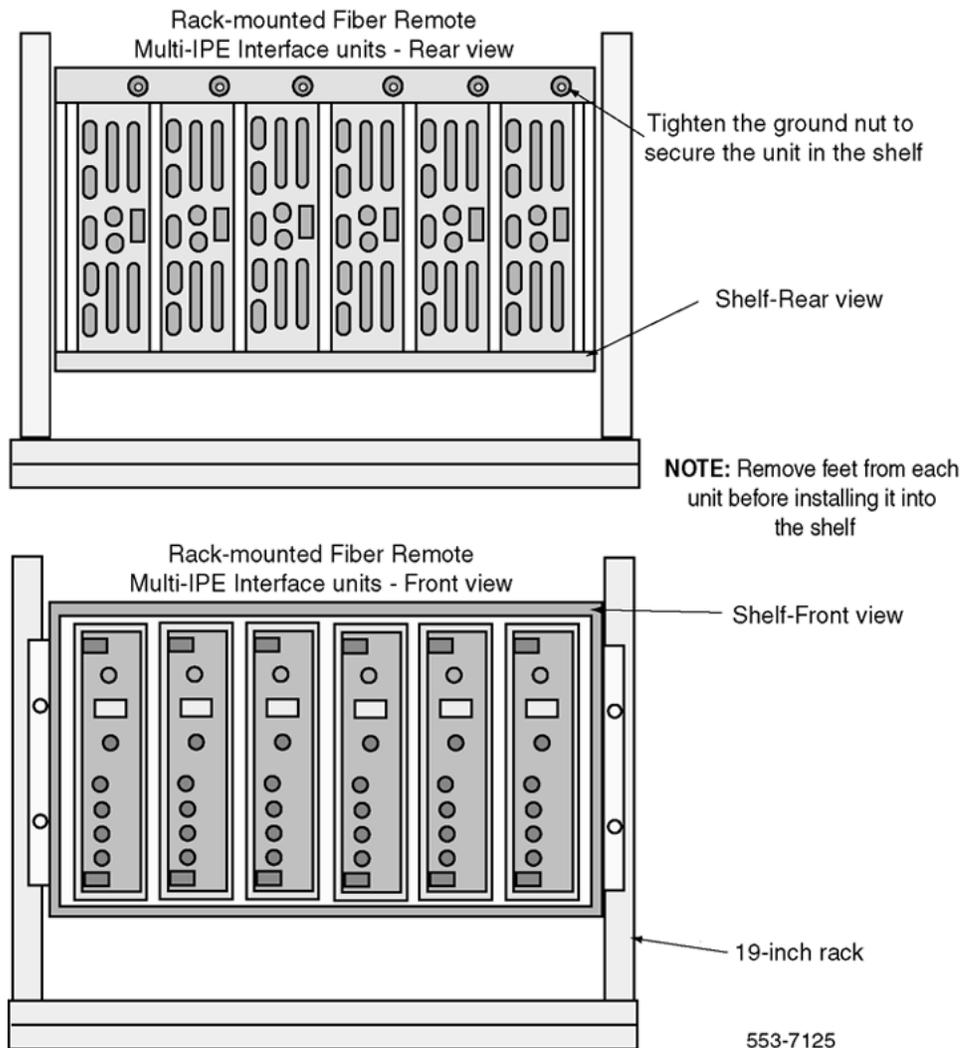
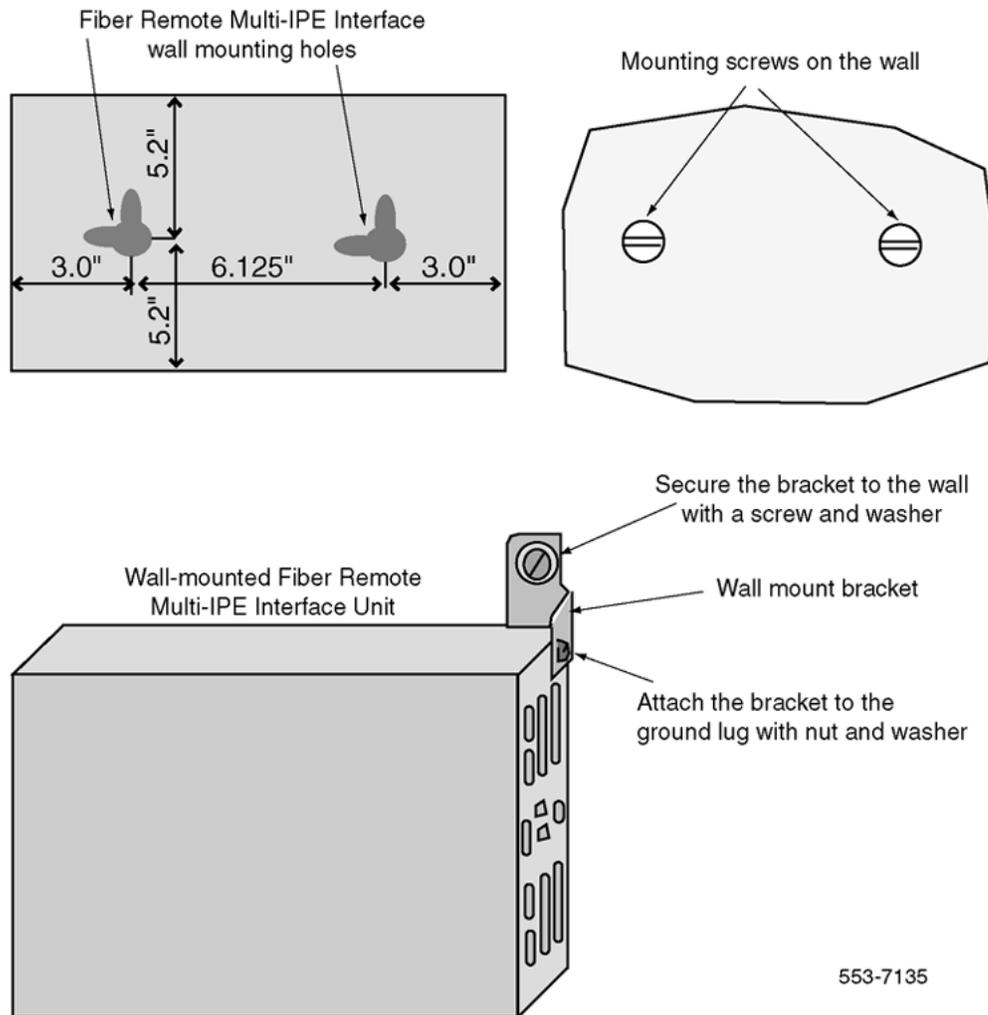

Figure 8: The Fiber Remote Multi-IPE Interface unit installation methods
Figure 9: Wall-mounting the Fiber Remote Multi-IPE Interface unit
7. Install the Fiber Remote Multi-IPE Interface unit into the rack-mounted shelf or onto the wall, as shown in Figure 8: The Fiber Remote Multi-IPE Interface unit installation methods on page 53 and Figure 9: Wall-mounting the Fiber Remote Multi-IPE Interface unit on page 55.
The shelf supports up to six Fiber Remote Multi-IPE Interface units and mounts onto a 19-inch rack using standard 10x32 pan head screws. Refer to Figure 8: The Fiber Remote Multi-IPE Interface unit installation methods on page 53 for installation illustration.
Figure 8: The Fiber Remote Multi-IPE Interface unit installation methods on page 53 illustrates the installation of the Fiber Remote Multi-IPE Interface units on the wall and into a rack-mounted shelf.
To mount the Fiber Remote Multi-IPE Interface unit on the wall refer to Figure 9: Wall-mounting the Fiber Remote Multi-IPE Interface unit on page 55 and follow the steps in Installing the Fiber Remote Multi-IPE Interface unit onto the wall on page 53.
Refer to Figure 9: Wall-mounting the Fiber Remote Multi-IPE Interface unit on page 55 to see the hole location templet.
Figure 9: Wall-mounting the Fiber Remote Multi-IPE Interface unit on page 55 illustrates the installation of the Fiber Remote Multi-IPE Interface unit onto the wall.